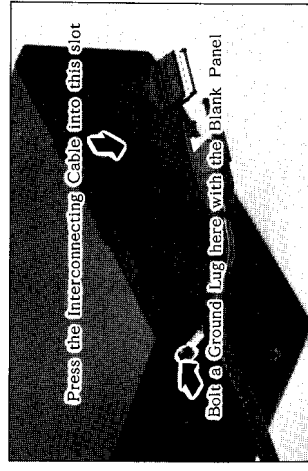

Figure 6.
- 3) Attach the supplied blank panel to the main chassis using three of the four screws (see Figure 6). Attach the shield grounding lug on this end of the extension cable braid at the remaining hole.